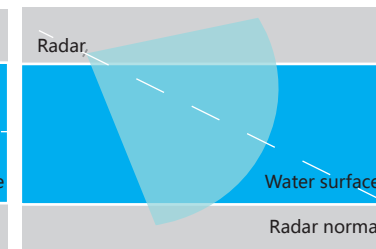

Fig.2-9
- ⑥ If the radar installation environment is for water object detection, radar install at shore to monitoring ships on the surface of water, like figure 2-9.